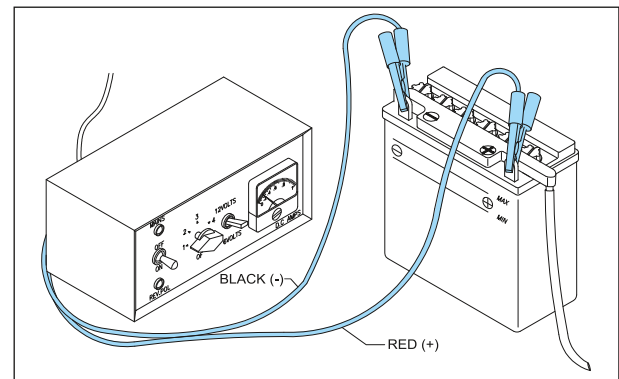

Fig. 6.60
- In case of single battery, connect the positive lead of the battery charger to the '+ ve' terminal of the battery assembly and negative lead of the battery charger to '- ve' terminal of the battery assembly. (Fig. 6.60)